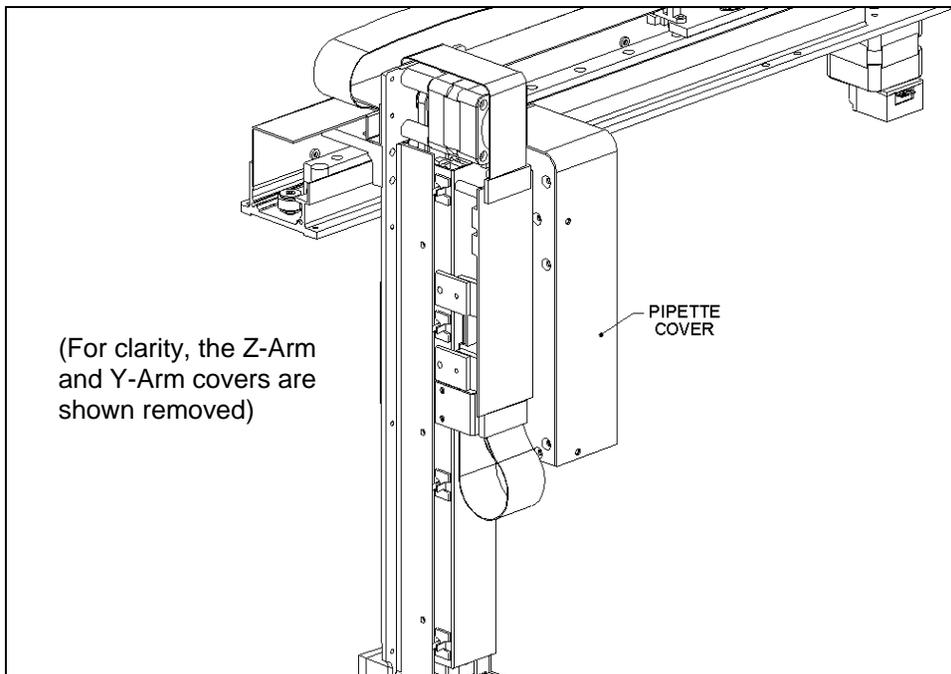

Figure 7-1 Removing the Pipette Cover
- 1 Remove the Pipette Cover (Part No. 204010400) by removing the five M3 x 6 BHCS screws and five M3 shakeproof washers (Figure 7-1).